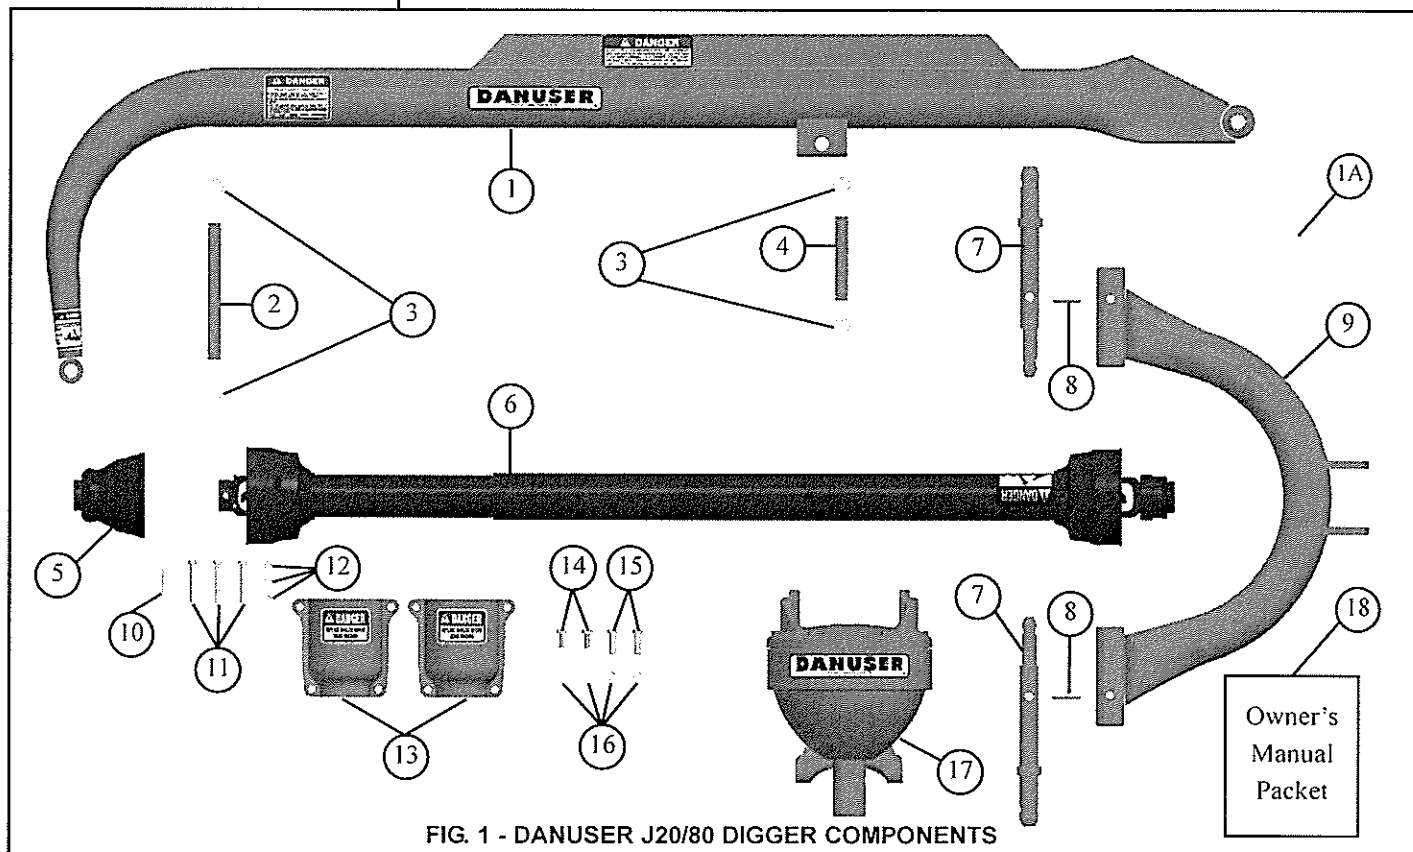

FIG. 1 - DANUSER J20/80 DIGGER COMPONENTS
Before you begin assembly, open all packaging and compare the contents to the photo (Fig. 1) and shipping list (Table 1) below to ensure you have all of the components and your unit has all of the safety signs and shields or guards required by current production safety standards. If your unit does not comply, contact Danuser Machine Company, Inc. IMMEDIATELY at (573) 642-2246.